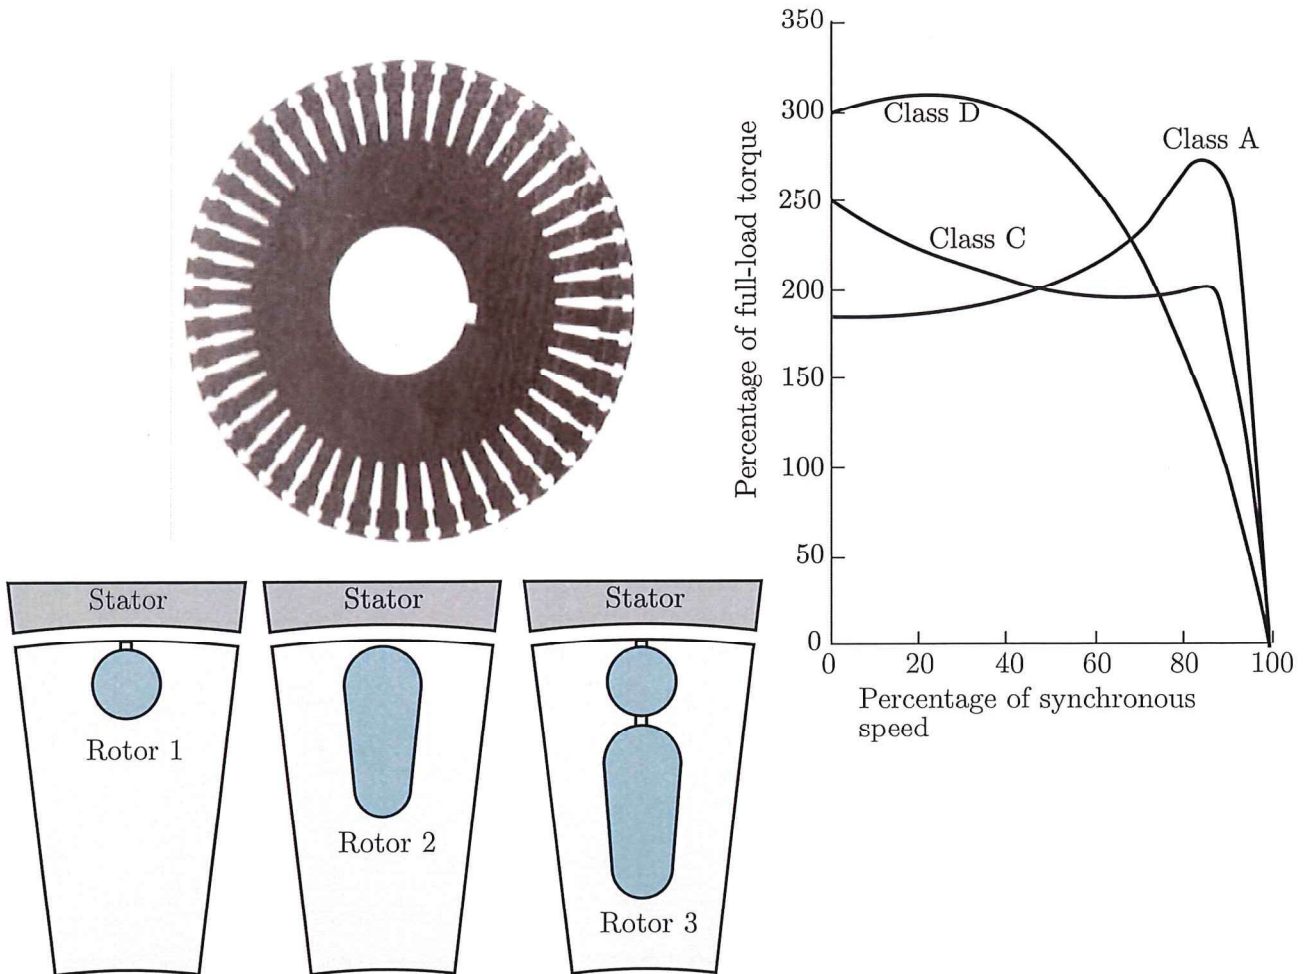

Figure 6: Torque-Speed Curves for Different Rotor Designs
- [6.7%] With the help of Fig. 6, determine to which Nema class (A, C or D) this motor belongs and which design its rotor slot has (1, 2 or 3). Also link each rotor slot (1,2 or 3) with its corresponding Nema class (A, C or D). Explain your answer by considering low and high slip, rotor leakage reactance and variable rotor resistance.